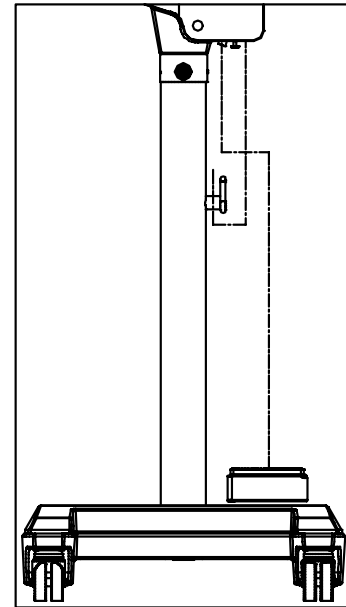

Fig.10
3. Place the footswitch [1] flatly on the balance board[20]. (Fig.10)